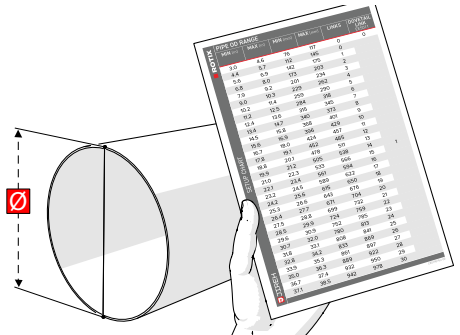

Fig. 74 - Refer to setup chart
1. Determine the diameter of the pipe or tube to be scanned. Included in the **ROTIX** kit and this manual is a setup chart indicating the number of links required based on the diameter of the pipe or tubing (Fig. 74).